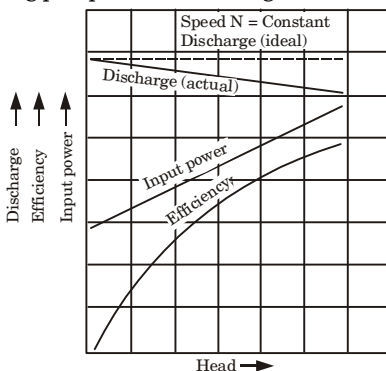

Fig. 5.41.1. Operating characteristic curves of a reciprocating pump.
1. The operating characteristic curves indicating the performance of a reciprocating pump are shown in Fig. 5.41.1.
3. As shown in Fig. 5.41.1, under ideal conditions the discharge of a reciprocating pump operating at constant speed is independent of the head developed by the pump.
6. The overall efficiency of a reciprocating pump also increases with the increase in the head developed by the pump as shown in Fig. 5.41.1.